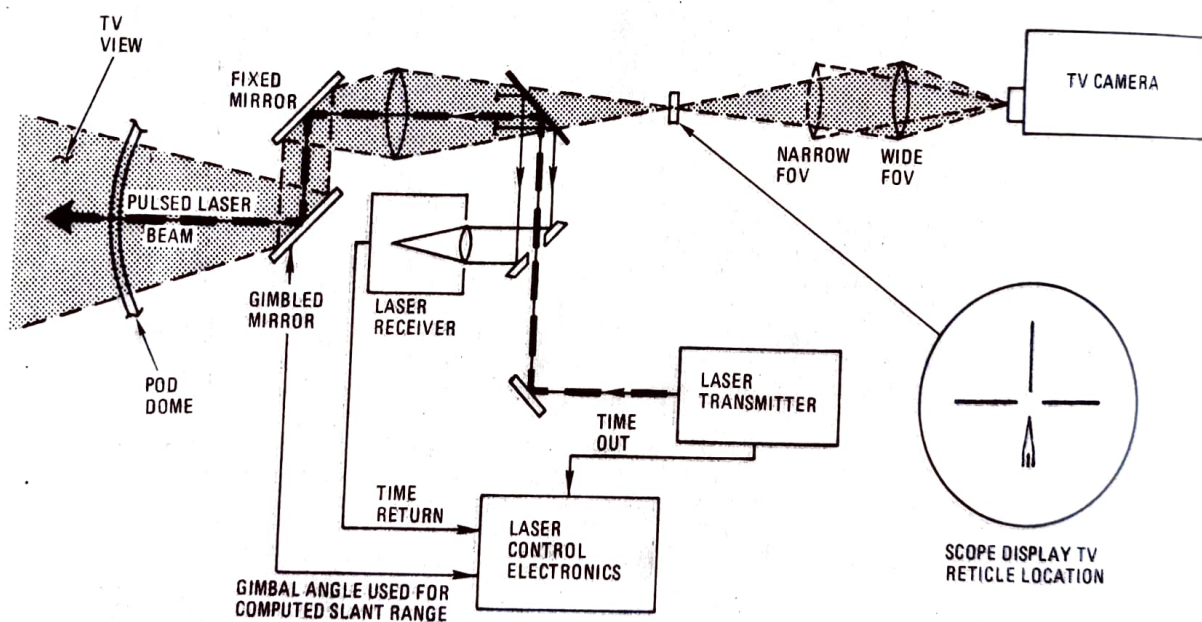

Figure 10, Optical Subsystem
(5) Laser transmitter cooling is accomplished by circulating a coolant (fluro-carbon mixture) through cavities around the flashlamp and laser rod. The heat generated by the laser transmitter is passed to a heat exchanger in the pod nose section. A flow switch in the coolant line protects the transmitter if the coolant is not flowing.
c. Optical Subsystem: The optical subsystem consists of a composite optics assembly, pod dome, folding mirror, and gimbaled mirror (Figure 10). The composite optics assembly includes lens assemblies, dichroic beam splitter, filter wheel, narrow FOV and wide FOV relay optics, fiducial marks (tracking gate), and laser/TV boresight adjustments. The TV LOS and laser LOS are boresighted together and pointed via the gyrostabilized gimbaled mirror. The TV and laser boresight alignments are accomplished in the maintenance shop. For boresighting the laser and TV together, the laser transmitter lens in the composite optics assembly is adjustable in two perpendicular axes. After the pod is mounted to the aircraft, the TV LOS is boresighted parallel with the aircraft datum line by electrical adjustments on the target designator set control. Other characteristics of the optical subsystem include the following:
- (1) A glass dome protected by a mechanical visor when in the stowed position.
- (2) Gimbaled mirror azimuth coverage of  $\pm 15^\circ$  (extended by pod roll control loop) and elevation coverage of  $\pm 15^\circ$  to  $-160^\circ$ .
- (3) Filter wheel position controlled ALC circuits in TV subsystem (the filter wheel is driven to maximum density when the pod is turned off).
- (4) Composite optics assembly pressurized with dry nitrogen to protect optical surface.